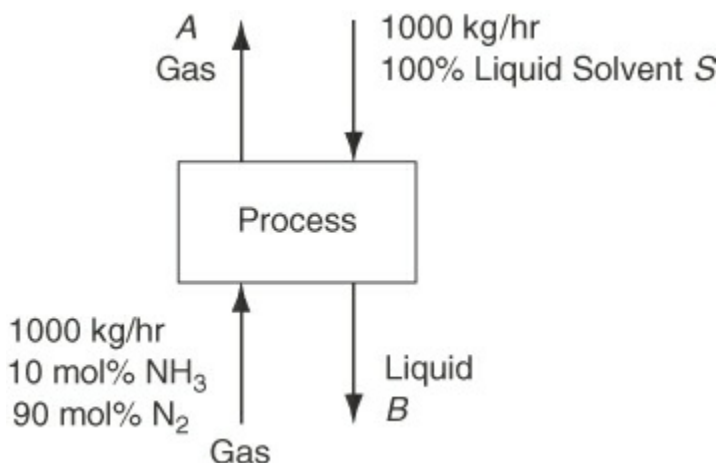

Figure P3.4.26
****3.4.26** Consider the following process for recovering NH_3 from a gas stream composed of N_2 and NH_3 (see Figure P3.4.26). Flowing upward through the process is the gas stream, which can contain NH_3 and N_2 but *not* solvent S, and flowing downward through the device is a liquid stream which can contain NH_3 and liquid S but *not* N_2 . The weight fraction of NH_3 in the gas stream A leaving the process is related to the weight fraction of NH_3 in the liquid stream B leaving the process by the following empirical relationship:
Given the data shown in Figure P3.4.26, calculate the flow rates and compositions of streams A and B.